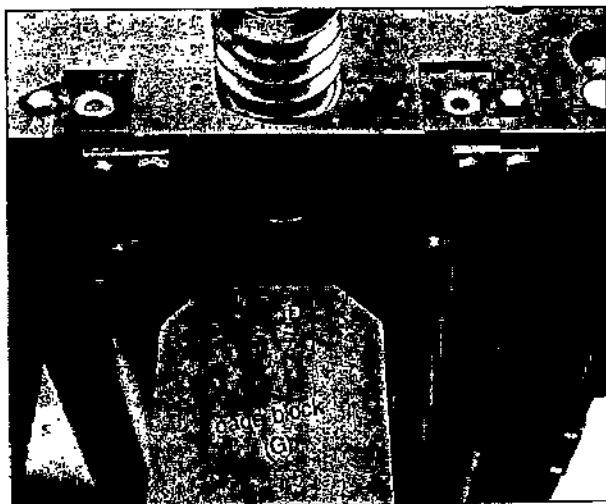

Fig. 31
3. Place the gage block (G) on the table directly underneath the cutterhead, as shown in Fig. 31. Using a 0.02" (0.5mm) feeler gage (H) Fig. 31, placed on top of the gage block, raise the working table until the knife just touches the feeler gage when the knife is at its lowest point. Do not move the working table any further until the outfeed roller is adjusted.